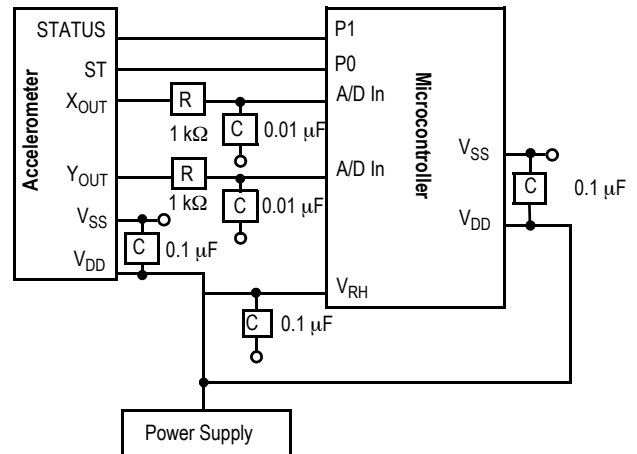

Figure 5. Recommended PCB Layout for Interfacing Accelerometer to Microcontroller
- Place a ground plane beneath the accelerometer to reduce noise, the ground plane should be attached to all of the open ended terminals shown in Figure 5.